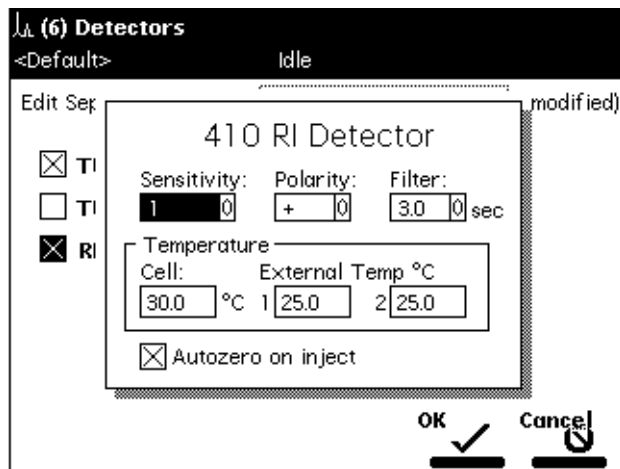

Figure 6-14 410 RI Detector Screen
1. In the Detectors screen, press the **RI** screen key to display the 2410/410 Detector screen (Figure 6-14).